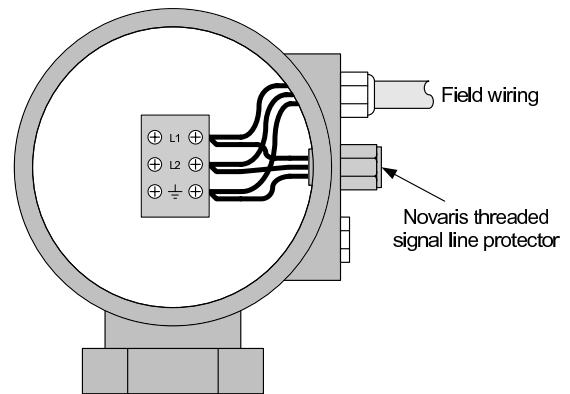

Figure 5: Typical installation of the threaded signal line protector.
- 5.1 Novaris threaded signal line protectors are designed to be installed in zone 0,1 and 2 hazardous locations. Typically, the surge protector is installed into a spare gland hole on a field instrument. An example of this is shown in figure 5.